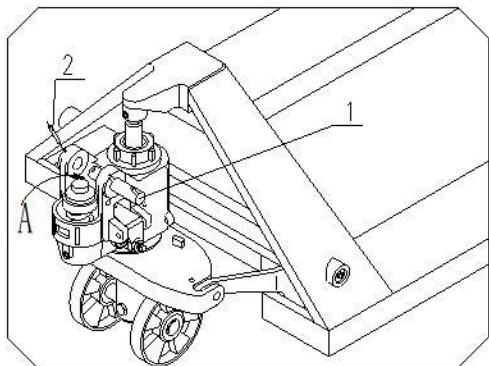

Fig. 1
- 3.1 See fig. 1. Pull out the pin roll (1).